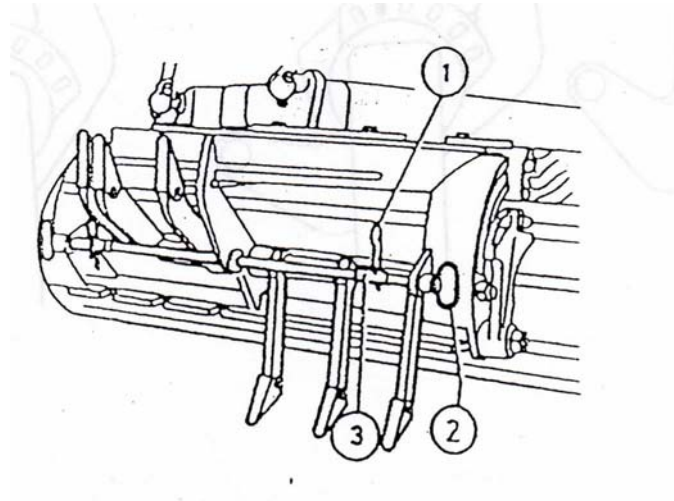

Fig. 22
1. Move the safety spring (Fig. 22/1) and pull out the lever (Fig. 22/2).
2. Push the safety lever (Fig.22/2) into after setting down the scarifier teeth; the distance sleeve shall be installed between external teeth outside on both sides if work with few teeth.